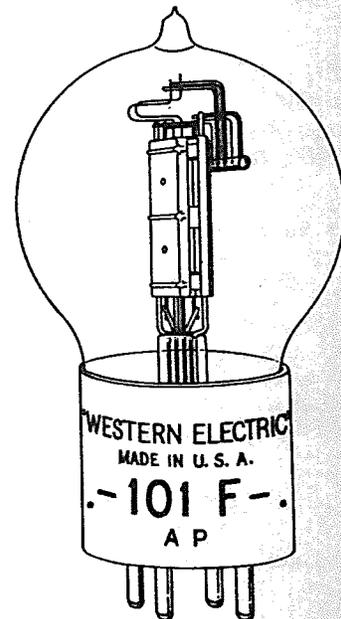

Fig. 1 - Typical Example of Base Marking
2.01 Fig. 1 shows a 101F vacuum tube of the spherical bulb type. As indicated, the manufacturer's name, place of origin and code are stamped on the tube base. In addition, two letters (AP in the example shown in Fig. 1) have been stamped on the base to indicate the date of manufacture. As shown below the
2.02 In accordance with the above scheme, the letters shown in Fig. 1 indicate a tube manufactured during the month of November 1936. This type of marking was applied to the 101F, 102F, 102D, D86326 and D86327 vacuum tubes and was continued in effect until these types of tubes were superseded by corresponding dome type tubes.